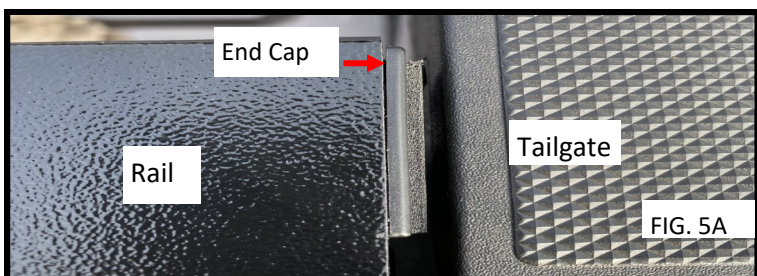

FIG. 5A
With the tailgate closed, position the rails so the endcaps are 1/16" away from the tailgate (FIG. 5A)
Finally, check for proper spacing by measuring between the rails at the canister and the tailgate end of the rails (Fig 5A). The measurement should be equal to or less than those in Fig 5B. The Rail Brackets and Shims have been pre-installed to achieve the proper Between the Rail dimensions (BR) when placed on an average factory truck bed. However, not all truck beds are average dimensionally and some have optional plastic caps or over the rail spray-in bedliners